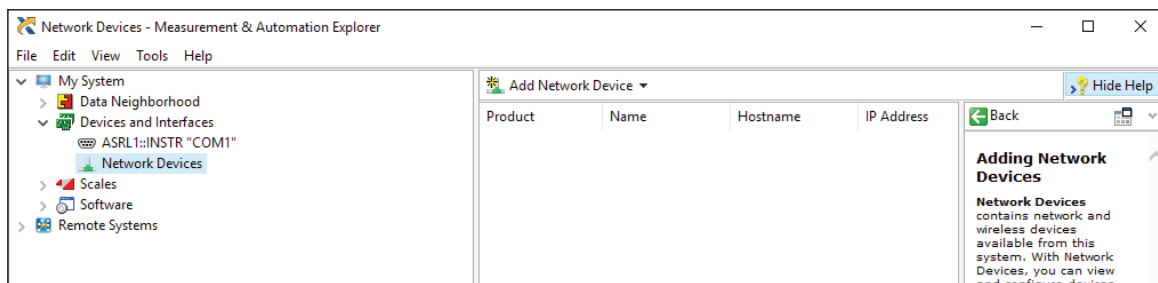

Figure 5
1. Open NI MAX (NI Measurement & Automation Explorer) installed automatically with NI VISA (fig. 5).